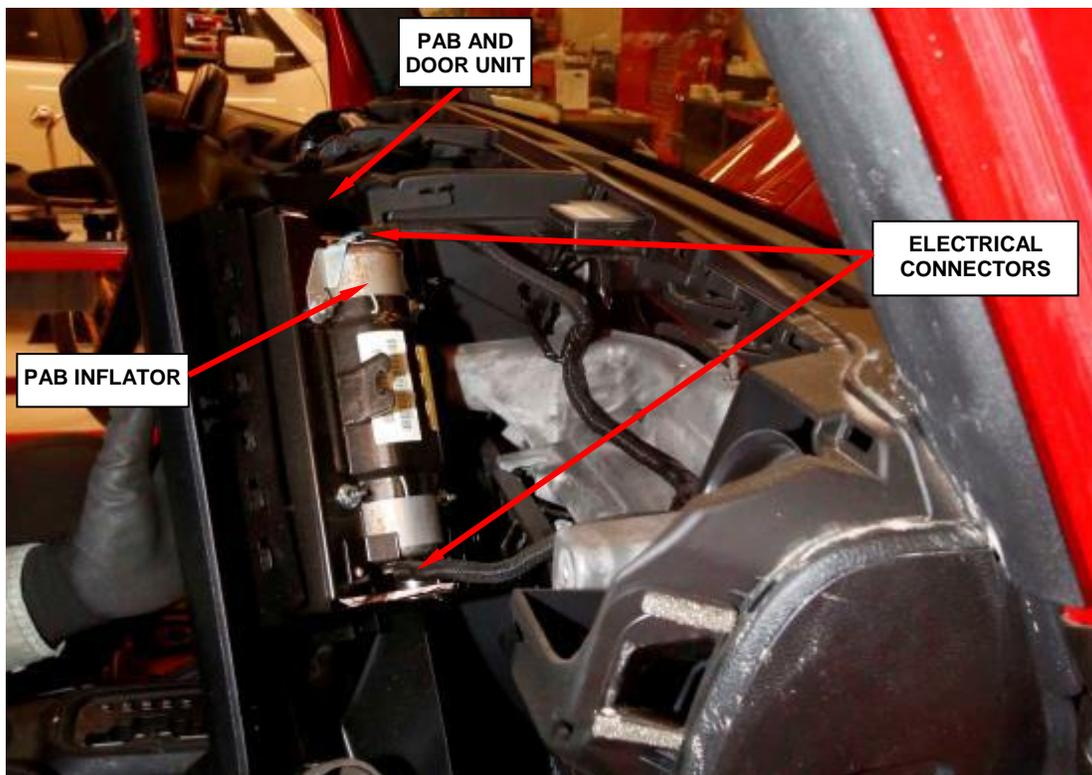

Figure 102 – Electrical Connectors
28. Grasp the lower edge of the PAB door and pull the door and PAB unit rearward far enough to access the two instrument panel wire harness connections to the PAB inflators at each side of the PAB housing (Figure 102).
29. Disconnect the two panel wire electrical connectors from the PAB inflators. Firmly grasp and pull the lock straight out from the connector insulator, then pull the insulators straight out from the inflator to disconnect them from the connector receptacles (Figure 102).